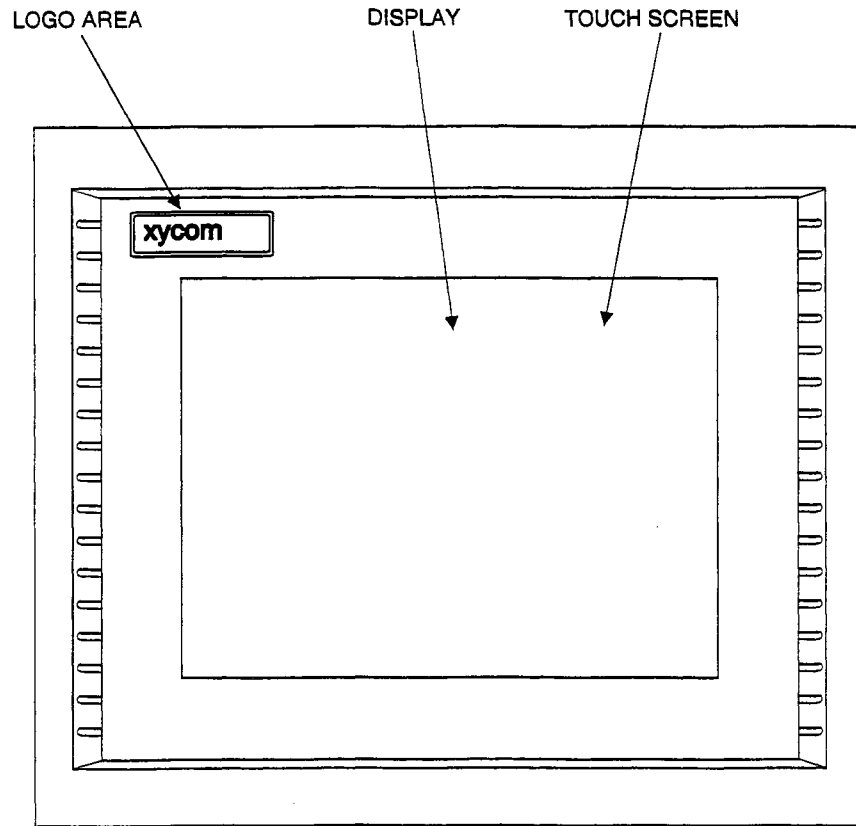

Figure 2-2. Front Panel (3300)
- *Figure 2-2, page 2-4 - Front Panel (3300)*